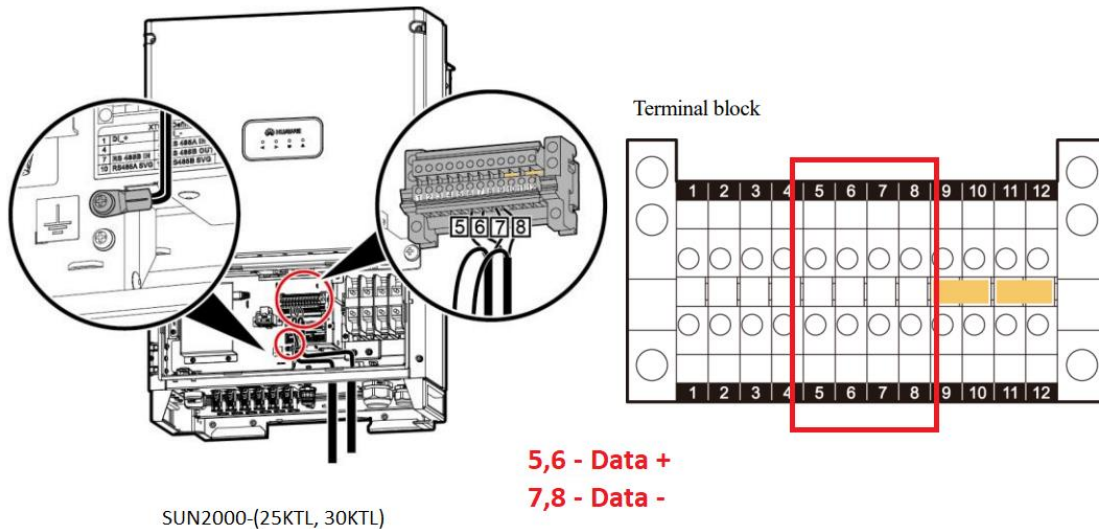

Figure H2: Huawei SUN2000-25KTL,30KTL communication port & Connections
- Please unscrew the RS485 terminal as shown in A part of Figure H2.